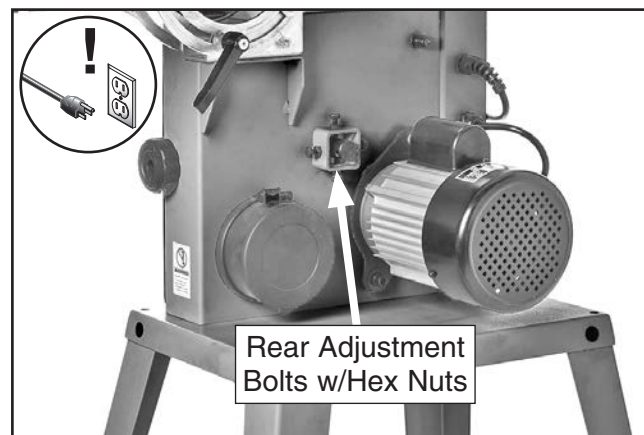

Figure 72. Location of rear lateral adjustment components.
There are four adjustment bolts with hex nuts in the lower wheel bracket, shown in **Figure 72**, that adjust the wheel tilt from side-to-side and up-and-down.
5. Loosen hex nuts on rear left and right adjustment bolts (see **Figure 72** on **Page 54**).